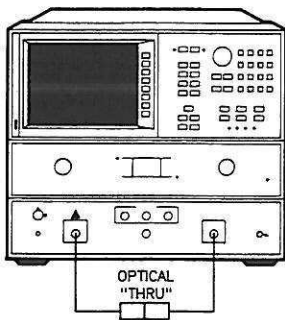

Figure 4. O/O Response Measurement Calibration Configuration
3. Connect the optical thru as shown in Figure 4. Notice that the analyzer shows the response of the entire measurement system. If you inserted your device at this point, the measurement would include the DUT's response added to the response now being displayed on the CRT. The following calibration procedure removes the system's response from the measurement. Press: